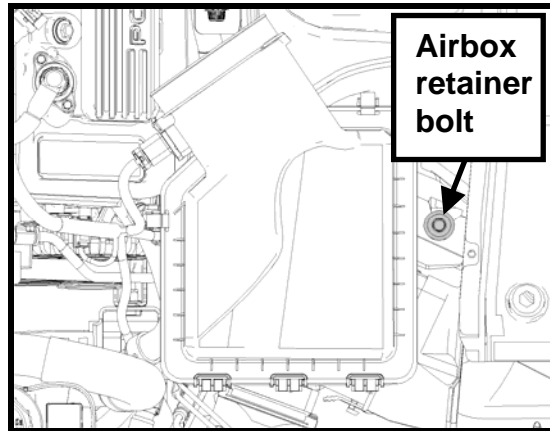

Fig. 5
STEP 7: Remove the airbox retainer bolt and assembly from the vehicle (See Fig. 5).